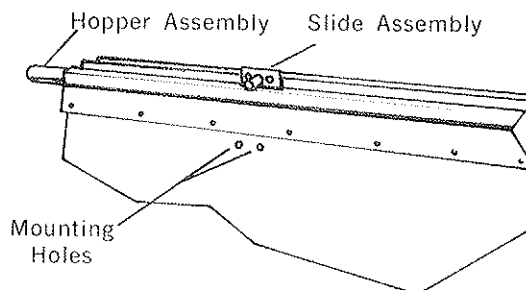

Figure 4
2. Fig. 4 - Install the Slide Assembly into the bottom opening of the Hopper Assembly. Be sure the Bracket Stud is on the same side as the Mounting Holes as shown.